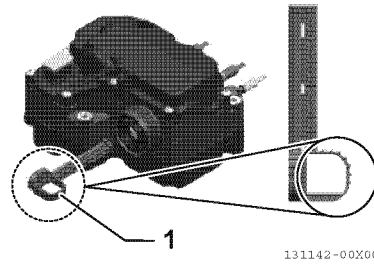

Fig.25-42
- 4 - Bend the filter element drawing-out tool (1, Fig.25-42) until both sides of the hinge contact, and insert it into the insertion position in the shape shown in Fig.25-42.